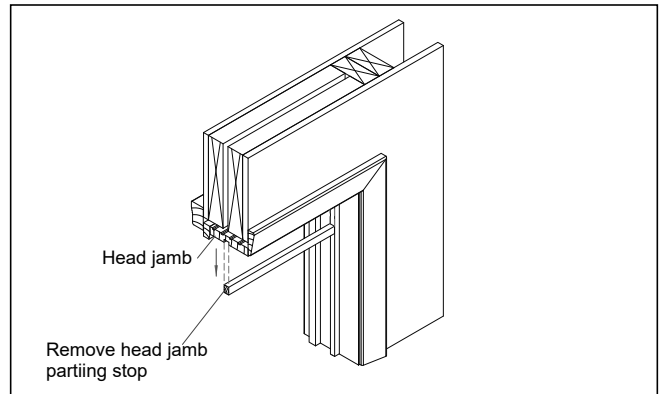

Figure 2
3. After removing bottom sash, slide top sash down toward sill and remove part stop from the head jamb. See figure 2.